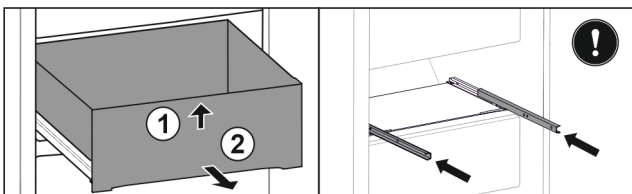

Fig. 110
- ▶ Lift up drawer at the front. Fig. 110 (1)
- ▶ Remove drawer to the front. Fig. 110 (2)